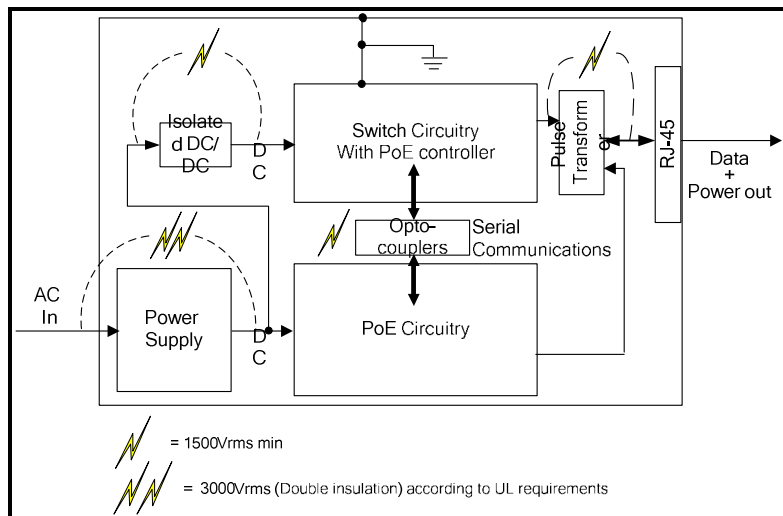

Figure 4: Switch Circuitry with a Single DC Source
- A single DC input (separate power supplies) for both the switch and PoE circuit as well as additional or integrated isolated DC/DC circuitry for the switch input and isolated serial communication port between the PoE circuitry and the switch's circuitry (see Figure 4).